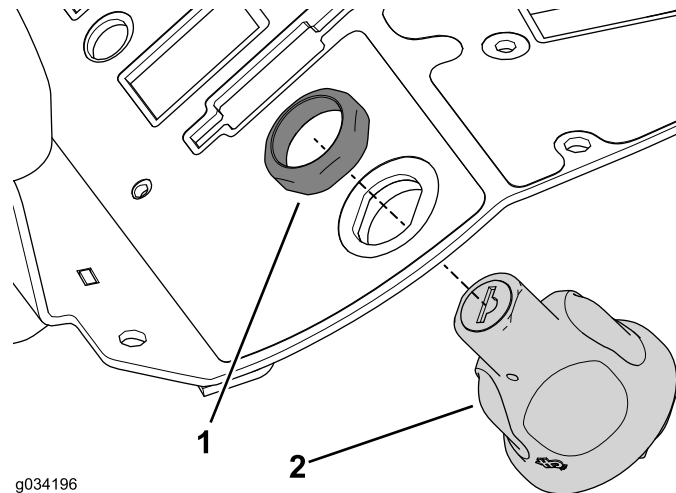

Figure 28
3. Use the retaining nut you removed earlier to secure the ignition switch to the console assembly (Figure 28).